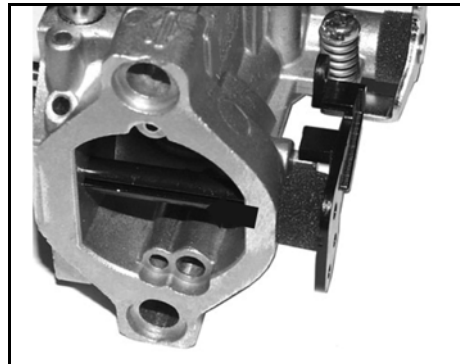

Figure 64
4. Turn the choke shaft counterclockwise while gently pushing it into the carburetor body until the bottom end of the spring (D) rests on the back of the spring perch (A).
5. Lift the choke shaft up slightly and continue turning counterclockwise until the stop on the lever clears the spring perch. Push the shaft inward. When released, the choke shaft lever should rest on the spring perch as shown (Figure 64).